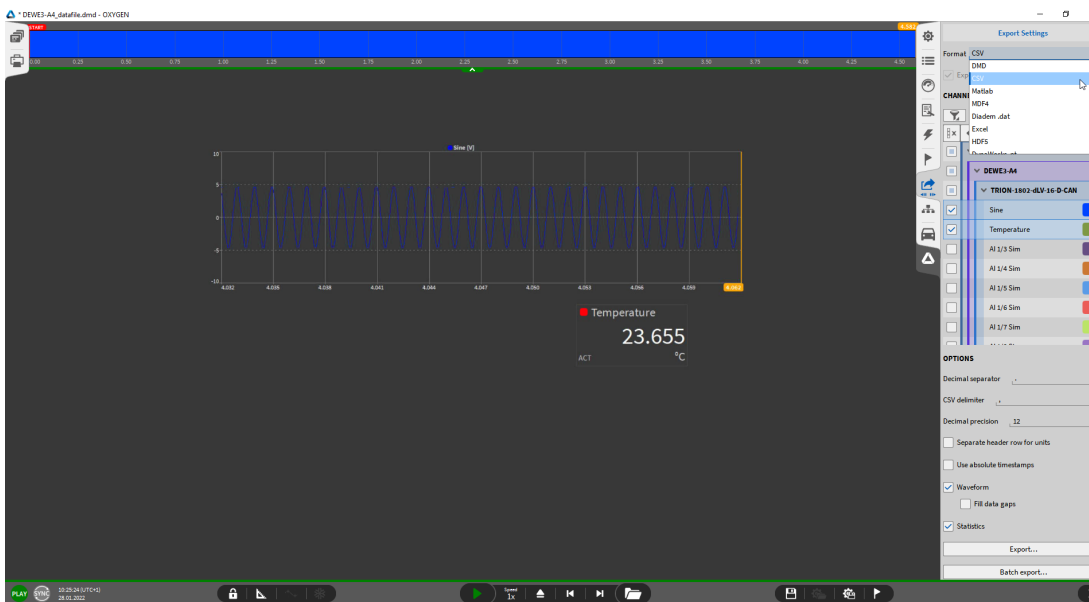

Fig. 27: Exporting data file for post-processing
The green border and PLAY indicator in the lower left corner indicate that a file is loaded for post-processing (see Fig. 27).
4. Click on the export button seen in Fig. 27.